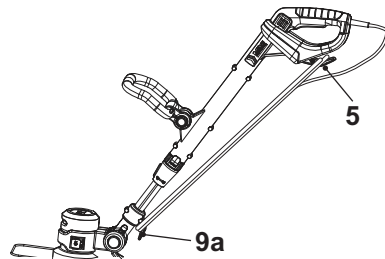

Fig. 30
5. Wrap the power cord (3) or extension cord onto the two cord containers (5, 9a) and secure it with a suitable cord clip (Fig. 30).